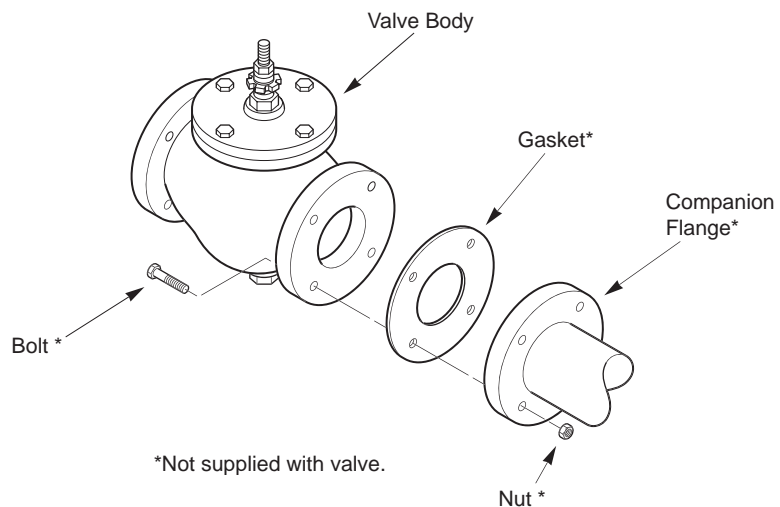
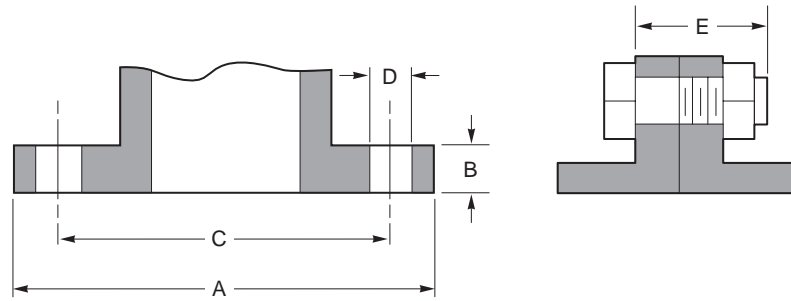

Figure-3 Installation of Flanged End Valves
Figure-6 Flange Dimensions
4. Figure-3 shows the proper way a flanged valve should be mounted. See Figure-6 for flange and flange bolt details.
Table-9 Flange Detail for American Standard 125 psi Cast Iron Pipe Flanges (Figure-6)